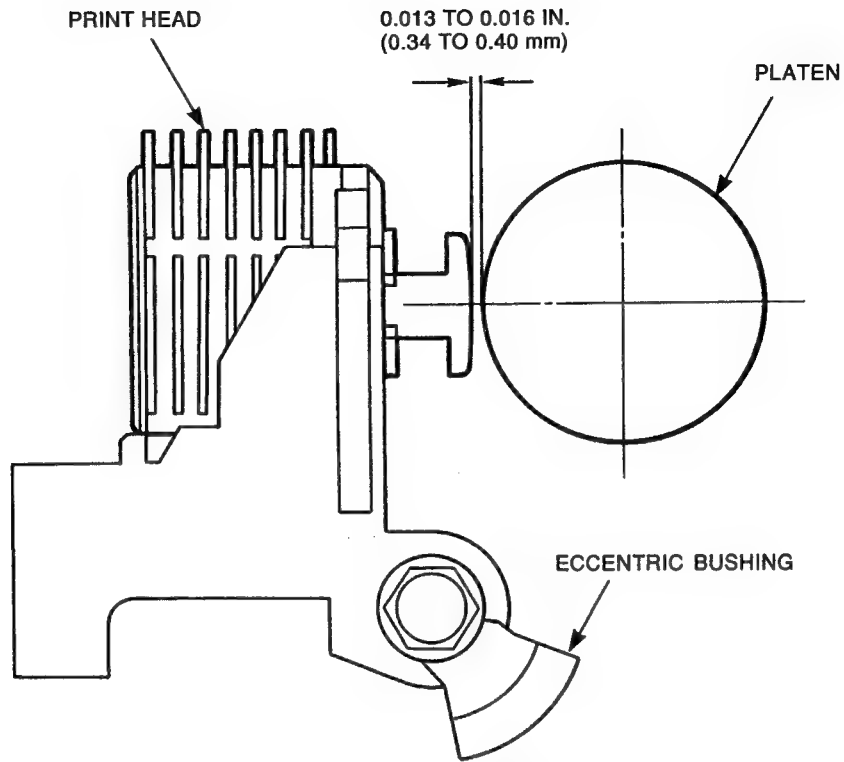

Figure 4-1 Print Head Gap
8. Measure the distance between the print head and platen (see Figure 4-1). The gap should measure between 0.013 and 0.016 in. (0.34 and 0.40 mm).